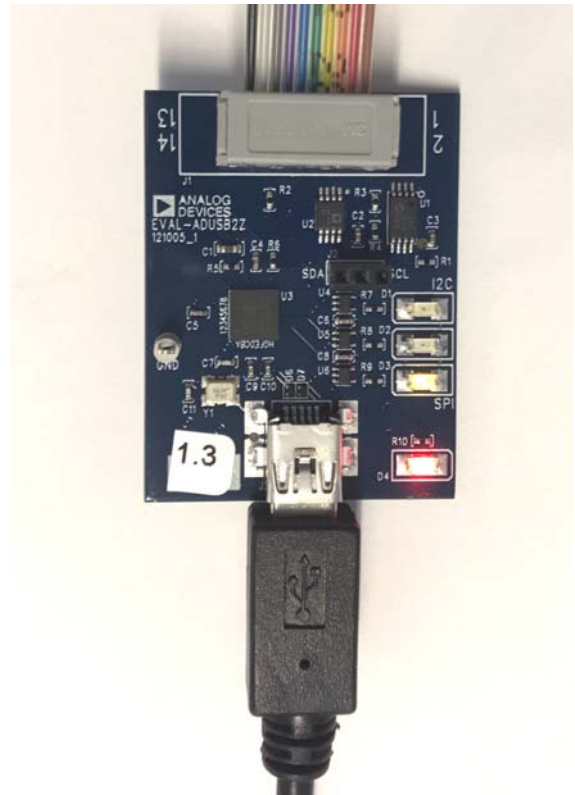

Figure 7. State of **USBi** Status LEDs After Driver Installation
- With the **USBi** still connected to the USB 2.0 port of the computer, check that both the yellow I²C LED and the red power indicator LED are illuminated (see Figure 7).